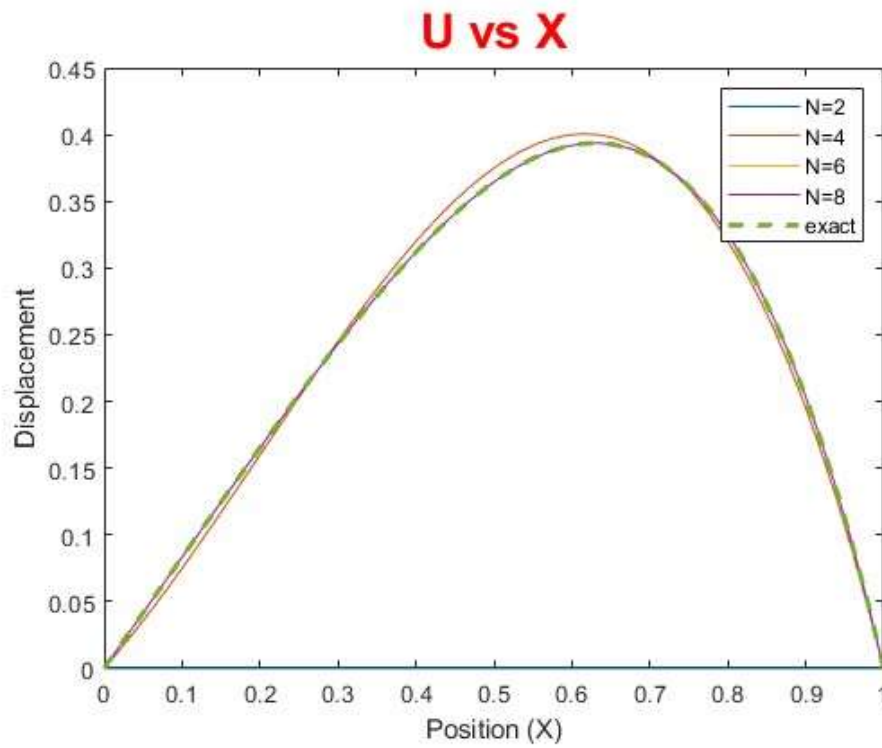

Fig 16
- ❖ Here also from figure 16 we can see that essential boundary condition (displacement boundary condition) is always satisfied for any  $N$ .